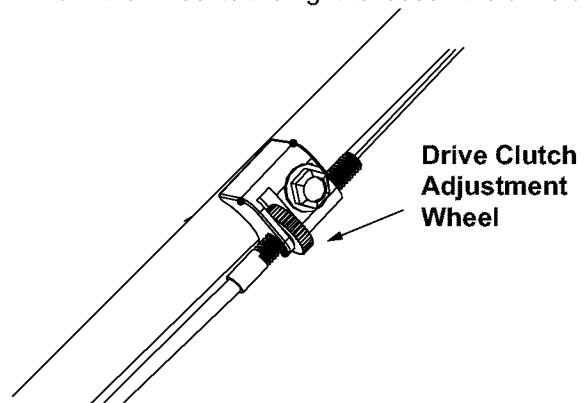

Figure 18
1. To adjust, rotate the adjustment wheel with your fingers. See Figure 18 for location of the wheel.